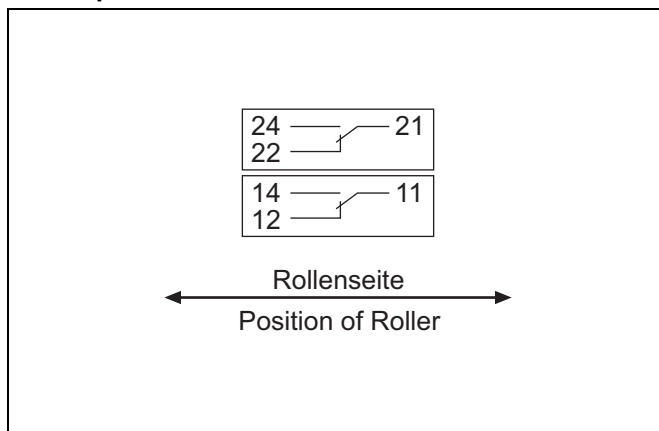

Fig. 5-7: Connection diagram in the belt misalignment switch cover
4. Connect the connection cable to the terminals of the switch (7) in the cover (2) of the belt misalignment switch according to the connection diagram (see figures 5-7 and 5-8).
5. Connect the protective conductor (max. 2.5 mm²) to the protective conductor connection M 4 (8). The factory setting for the switch points of the belt misalignment switches is 10° in both directions. The